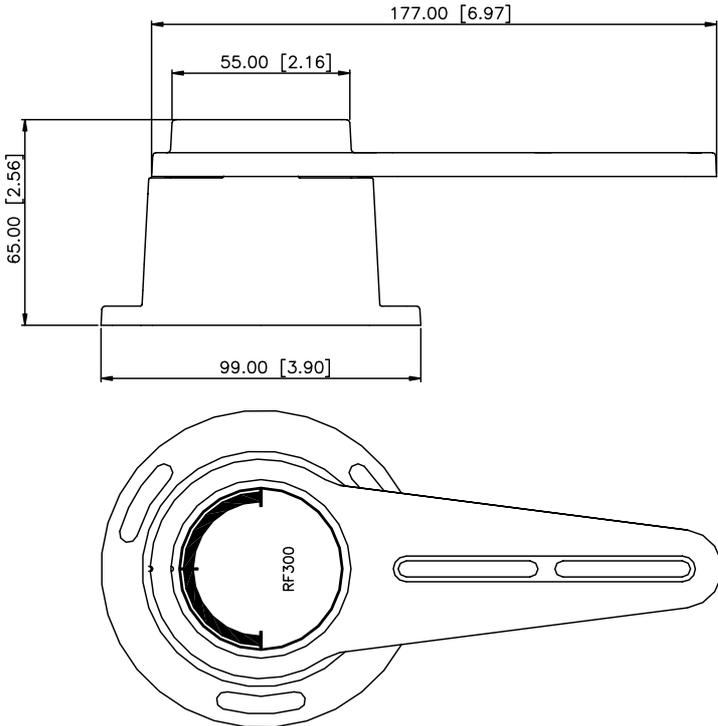
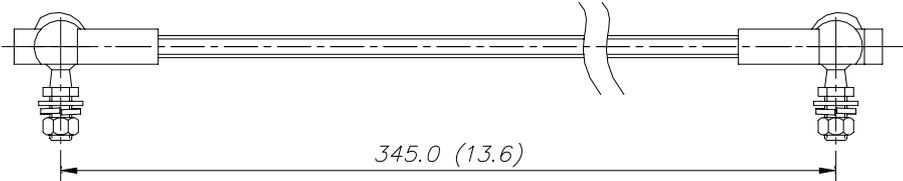

Figure 3-6 RF300 Rudder Feedback - Dimensions
Figure 3-7 Transmission link - Dimensions
- Dimensions: See Figure 3-6 and Figure 3-7.